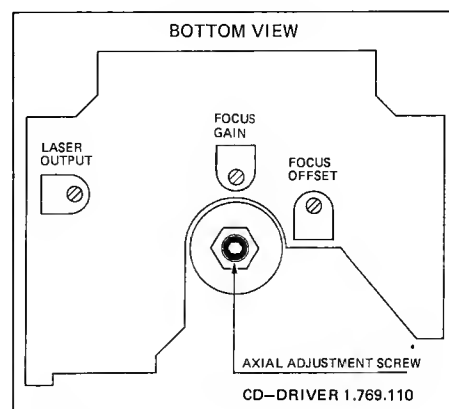

Fig. 4.13
- Adjust the voltage on R 63 to 500 mV +/- 50 mV with trimmer potentiometer LASER OUTPUT (on player mechanism 1.769.100.35/.36, Fig. 4.13/.14).